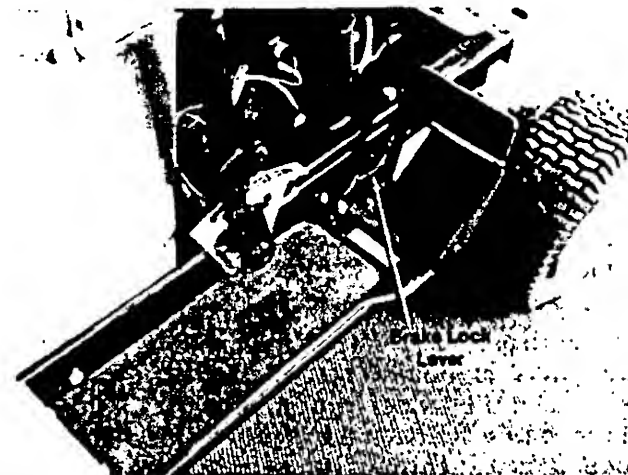

FIGURE 13.
g. **Brake Lock.** The brake lock is located on the right hand side of the mower. To lock the brake, depress the brake pedal and lift up the lock lever. The pedal will stay depressed. To release, depress the pedal. See figure 13.